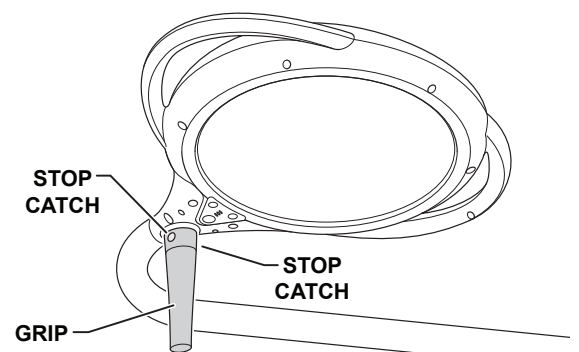

Figure 6. Sterilizable Grip
1. Press the stop catches at the top of the grip to remove (Figure 6).